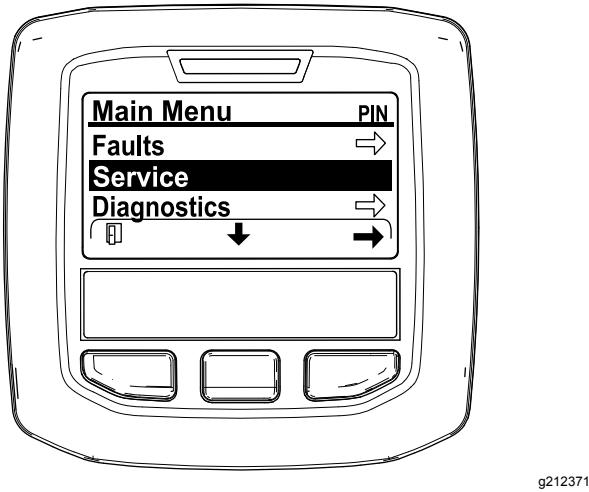

Figure 44
- Navigate to the MAIN MENU, press the center button to scroll down to the SERVICE MENU, and press the right button to select the SERVICE option (Figure 44).